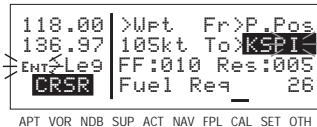

Figure 4-61
7. With the cursor over the "to" waypoint, enter the desired identifier (figure 4-61) and press **[ENT]**.